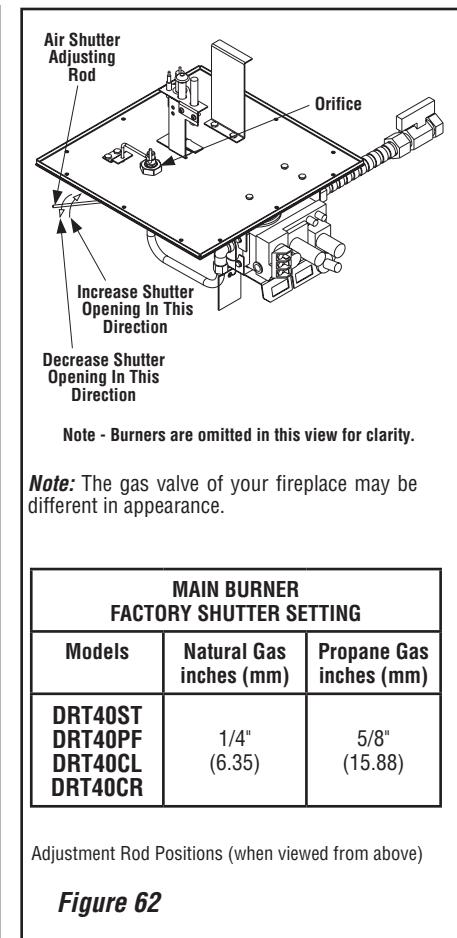

Figure 62
1. Refer to **Figure 61** for proper flame appearance. To adjust the flame, rotate the adjustment rod toward the back or toward the front of the fireplace (rod located in the lower control area). Position the air shutter to the factory setting as shown in the table in **Figure 62, page 38**.